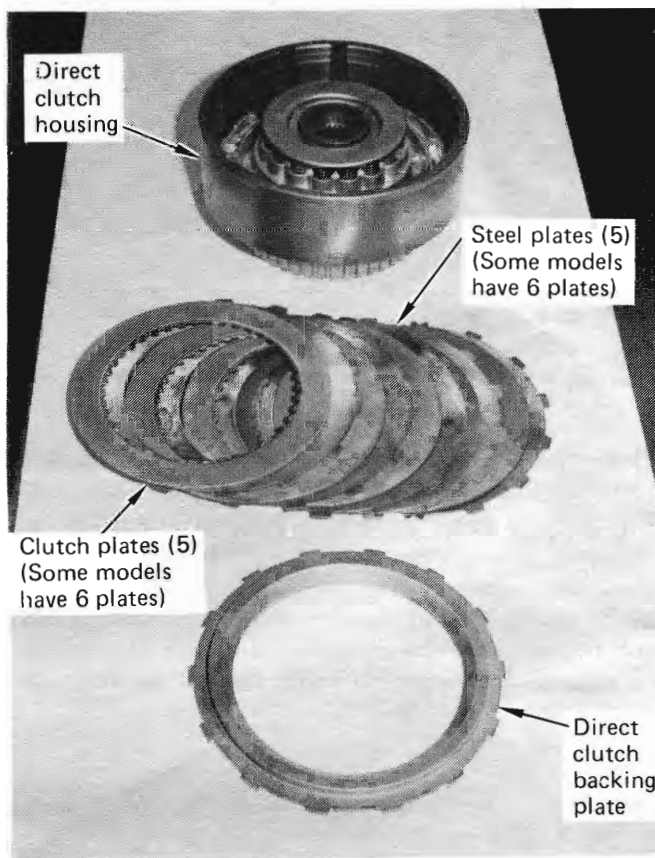

FIGURE 22
STEP 1. Remove the snap ring from the front of the direct clutch housing. (See Fig. 22) Remove the direct clutch backing plate, five clutch plates and steel plates. (Note: Some high performance Chevrolet units may have six plates and steels.) Discard the clutch plates and steel plates.